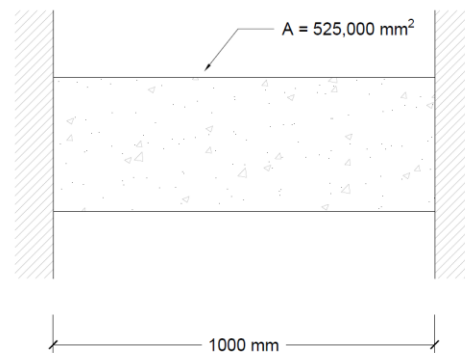

Fig. 1b – Restrained member for 4b
**4b.** Now consider the block of concrete shown in Fig. 1b which is rigidly attached to thick walls on both sides which prevent it from changing length. Explain why the member develops tensile stresses if the temperature is lowered, even though there is no applied load. Calculate how much colder it needs to get to cause the block to fail.